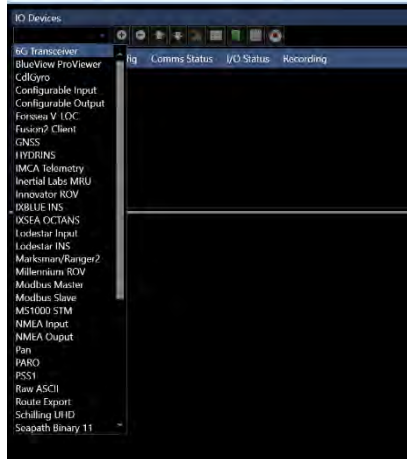

FIGURE 5-3 SUPPORTED DEVICE LIST
2. Click the drop-down list box in the tool bar to open the list of supported devices. See Figure 5-3